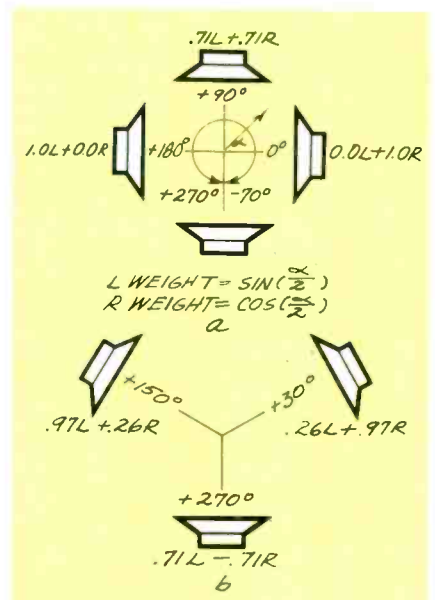

FIG. 1
*Very important were the half-angle formulas and their application to three channels, from Patent #3,746,792 (Scheiber, July 1973), as shown in Fig. 1.*
The Volt-Hound's block diagram is shown in Fig. 1. Note that there is a metal sensing tip, an Amplifier with a SENSITIVITY (gain) control, a Regulator that both amplifies and provides a constant output level,
FIG. 1—THE BLOCK DIAGRAM OF A VOLT-HOUND. The TEST switch only checks the battery, not the sensitivity of the device. The Regulator is the circuit stabilizes the input signal to produce a constant output for the Oscillator/Amplifier.